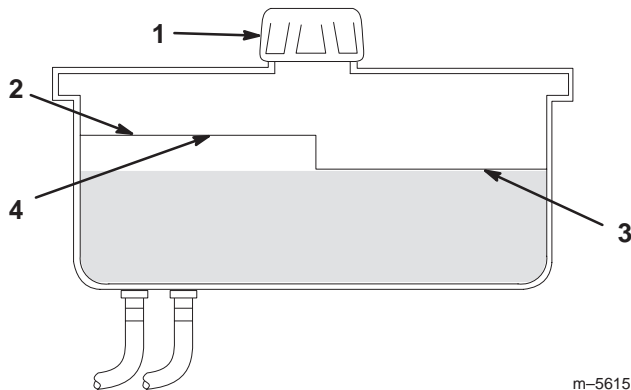

Figure 16
4. Clean area around cap and filler neck of hydraulic tank (Fig. 16).
5. Remove cap from filler neck. Look inside to check if there is fluid in the reservoir. (Fig. 16).
Note: The fluid level should be to the top of the **hot** level of the baffle, when the fluid is warm (Fig. 16).